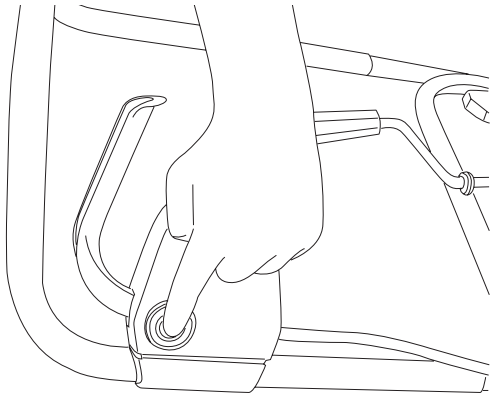

Figure 15
1. To power on , first press the Safety Switch Button found along side the switch housing (Fig. 15).